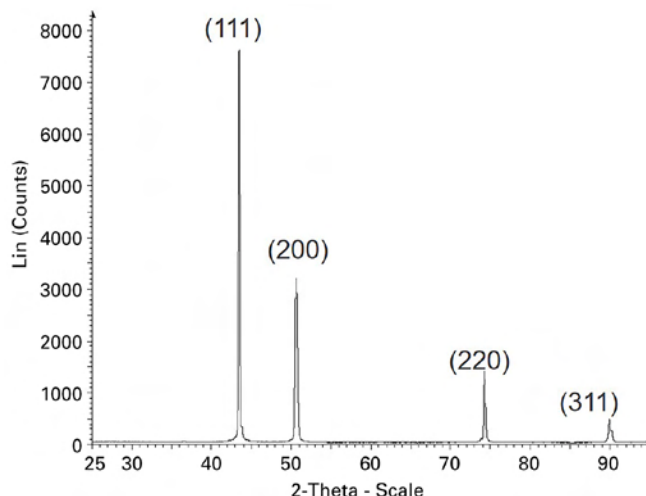

Figure 10: X-ray diffraction pattern for copper deposit plated using current formula.
X-ray diffraction (XRD) study was performed for the plated deposits to identify the crystal phase and different planes. A typical diffraction pattern (Figure 10) was obtained as the standard reported in the literature with reflections from planes (111), (200), (220), and (311) were observed^[8]. Narrow sharp peaks in the XRD pattern were observed which indicates highly ordered copper crystals in the deposit. Table 2 and 3 show no significant change in the major peaks, lattice constant or density of the plated copper after aging. This is an indication that the crystal phase of the deposit is similar even after bath aging up to 150 Ah/L.